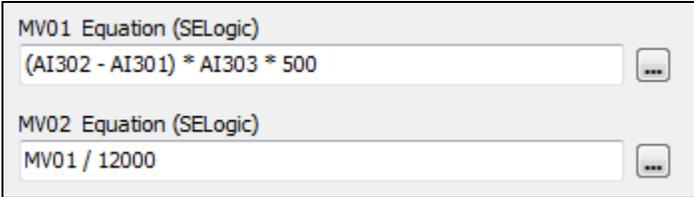

Figure 3 Example SELOGIC Control Equation Energy Consumption Calculations
SELOGIC control equation programming inside the SEL-2411 monitors instantaneous values, records cumulative water flow, and calculates chiller thermal capacity in British thermal units (Btus) per hour or in tons. Equation (1) shows an example of this formula. Figure 3 shows the example SELOGIC control equation settings in the SEL-2411 that perform the calculations. Additional logic can also record the cumulative values for demand tracking.